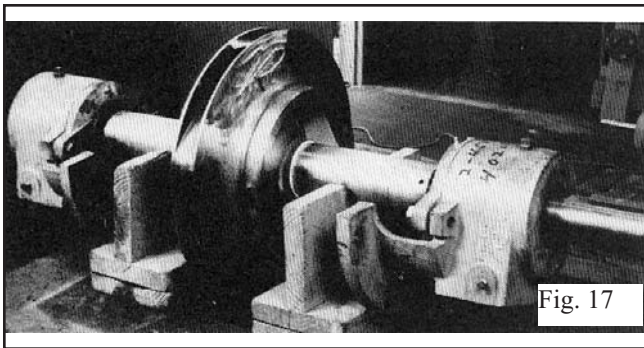

Fig. 17
3. Remove seal lines (102), if supplied.
4. Remove gland bolts (353B), washers (354), and gland (107) from each stuffing box.
5. Remove all casing main joint cap screws (426 & 426A) and dowels (469G). Use slot in casing main joint and separate the casing halves with a pry bar. Lift upper half casing (100) by cast lugs.
6. Remove packing (106) and seal cage (105) from each stuffing box.
7. Remove cap screws (372U) which hold bearing housings (134) to the casing and lift rotating element (See Fig. 17) out of lower half casing (100). Rotating element may now be moved to a suitable working location.